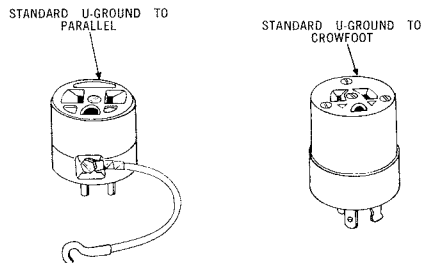
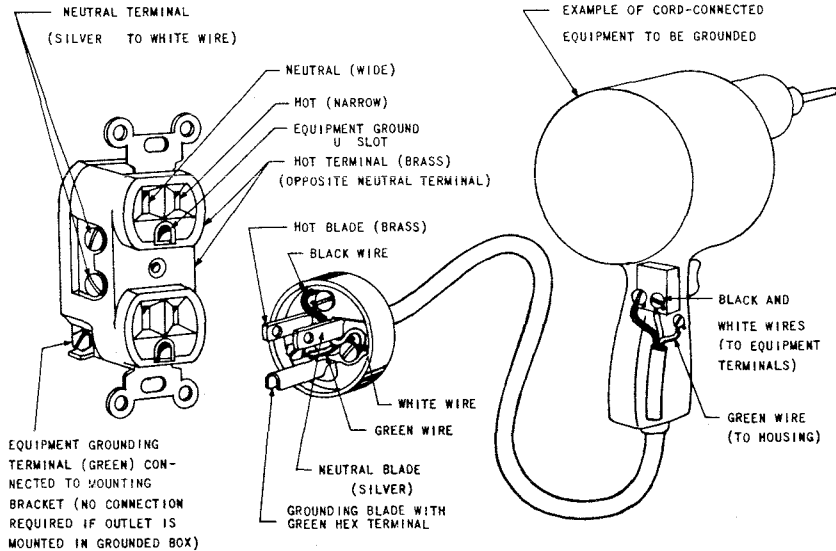

Fig. 5 — Adapters
Fig. 6 — Typical Bell Canada Arrangement
- 4.02 Except for the tools mentioned in Para. 4.01, the U-Ground plug is currently furnished as standard equipment with all Bell Canada tools. If commercial power receptacles of the 2-Conductor parallel or crowfoot types are encountered on the customer's premises, one of the appropriate adapters shall be used. (See Fig. 5)
tion of a U-Ground plug to a comparable U-Ground receptacle (See Fig. 6). If outlet has a crowfoot or 2-Conductor parallel receptacle, use appropriate adapter. (See Fig. 5).